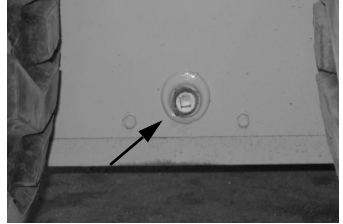

Figure 30 Fill Plug Location
2. Remove the fill check plug (Figure 30) from each chaincase cover. The oil level should be at the plug level or no more than 1/4 in. (6 mm) below.
3. If the level is low, add fluid through the fill plug (Figure 30) until the oil level reaches the check plug hole. Reinstall the plugs.